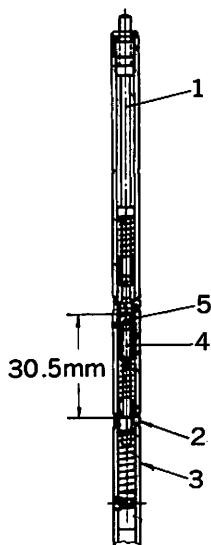

Fig. 31
Turning the handwheel, confirm whether the needle bar motion is not smooth due to projection of the lower steel ball (2)—Fig. 31—out of the outside diameter of the needle bar (3).